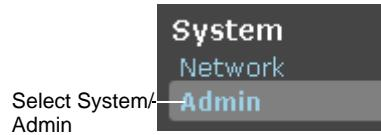

Figure 2-73 Select Admin in the System Menu
1. Select **Admin** in the **System** menu, as shown in Figure 2-73.